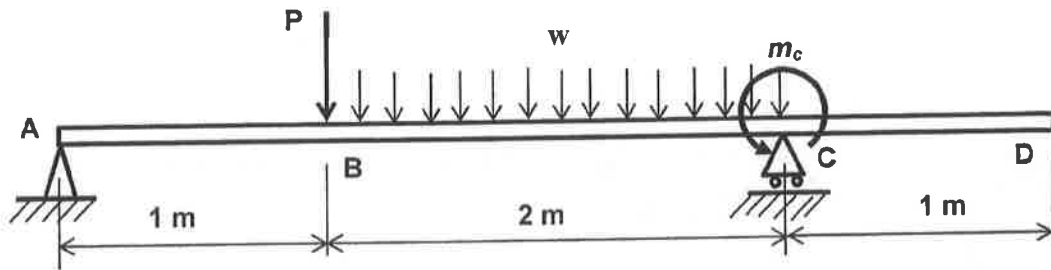

Figure Q10
10. A beam of uniform section shown in Figure Q10 has a length of 4 m and is simply-supported at points A and C. The beam carries a concentrated load $P = 6 \text{ kN}$ at B, a uniformly distributed load $w = 4 \text{ kN/m}$ on BC and an applied anticlockwise moment of 10 kNm at C. The flexural rigidity of the beam is $EI = 3 \times 10^3 \text{ kNm}^2$.